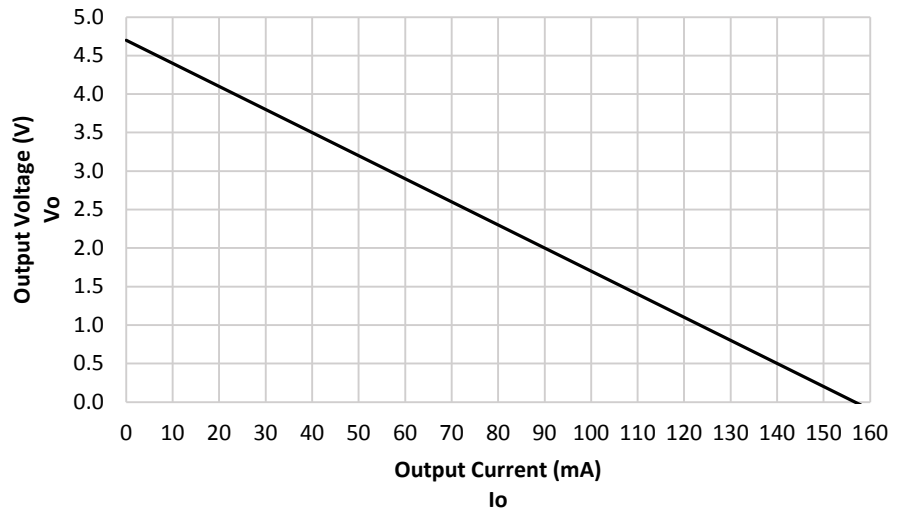

FIGURE 6-1. *Current sourcing on SW5V terminals*
**Current Sourcing Limit:** See FIGURE 6-1, *Current sourcing on SW5V terminals*